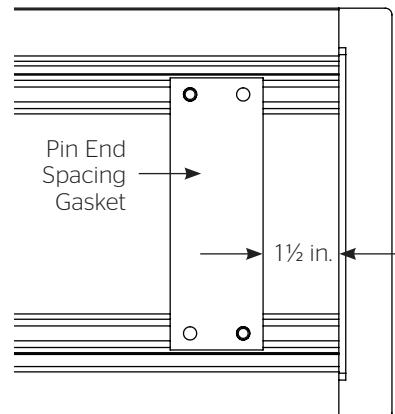

Figure 8
5. Slide the pin end spacing gasket until it is approximately  $1\frac{1}{2}$  inches from the end of the case (Figure 8).